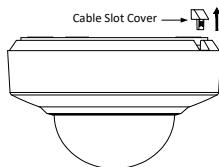

Figure 2-37 For DE2xxx Series PTZ Camera
3. Drill a cable hole in the ceiling according to the circle A on the template if you want to route the cables through the ceiling. Pull out the cable slot cover if you want to route the cables on the surface of the ceiling, as shown in Figure 2-37.